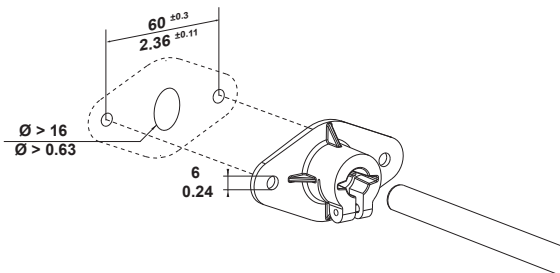

Fig. 3 Correct position of the probe in a flange
- Mount the temperature sensor at representative locations of the space to be monitored (see Fig. 3 and Fig. 5).